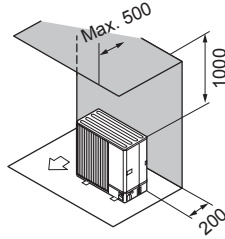

Fig. 2-25
- ② Obstacles at rear and above only (Fig. 2-25)